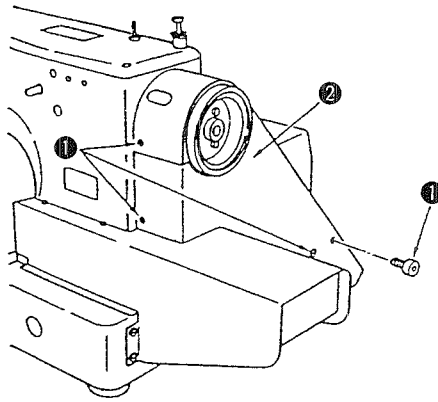
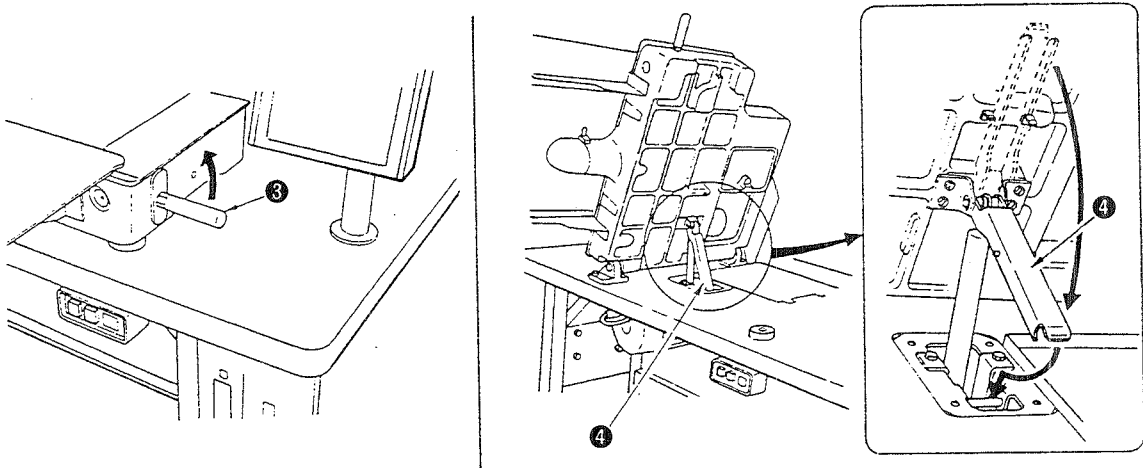
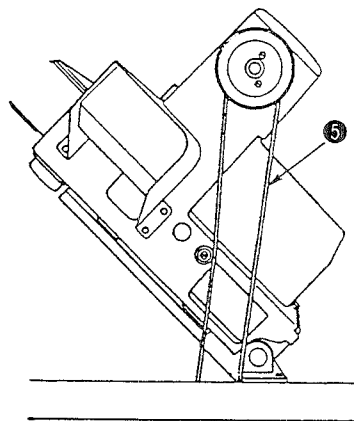

Fig. 5-38-1
Fig. 5-38-2
Fig. 5-38-3
<ol style="list-style-type: none">1) Remove screw ① and remove belt cover ②. (Fig. 5-38-1)2) Attach grip ③ supplied with the machine in position, and raise it in the direction of the arrow. At this time, be sure to use stopper ④. (Fig. 5-38-2)3) Remove V-belt ⑤. (Fig. 5-38-3)